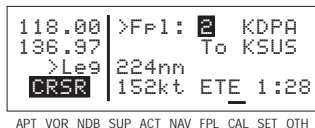

Figure 4-56
3. Turn the right outer knob clockwise to place the cursor over the flight plan number. As you cycle through the flight plans, the first and last waypoints of each flight plan will be displayed, along with the total distance in nautical miles (figure 4-56).